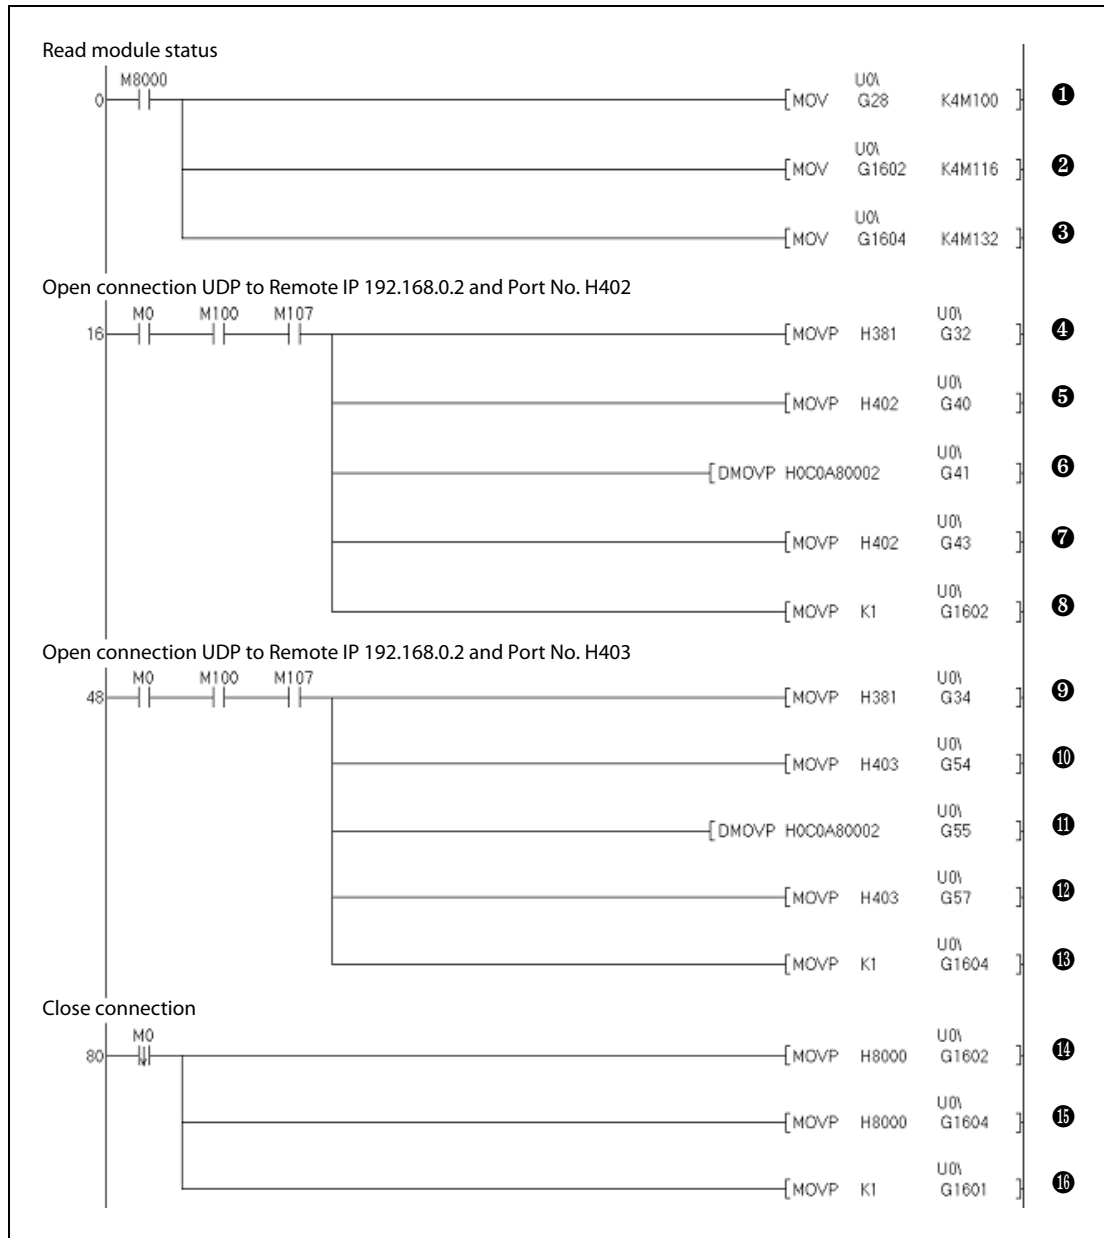

Fig. 5-13: Ladder program (1)
⑦	Destination Port No. h0402
⑧	Open command
⑨	Connection no. 3 setup
⑩	Local Port No. h0403
⑪	Destination IP Address
⑫	Destination Port No. h0403
⑬	Open command
⑭	Close command Con. no. 1
⑮	Close command Con. no. 3
⑯	[COM.ERR.] LED Off request
Tab. 5-8: Description of the ladder program (1) in fig. 5-13